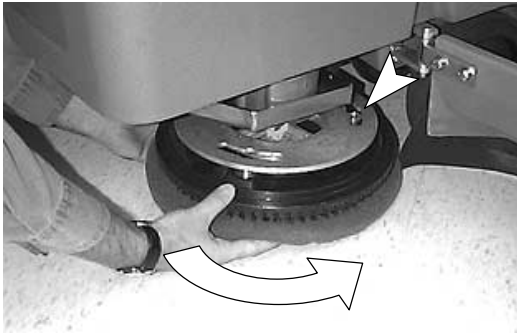

FIG. 9
7. Align pad driver mounting studs with slots in motor hub. Give the driver a quick turn toward the motor hub spring clip. Be certain that spring clip locks into one of the studs before operating machine (*Figure 9*).